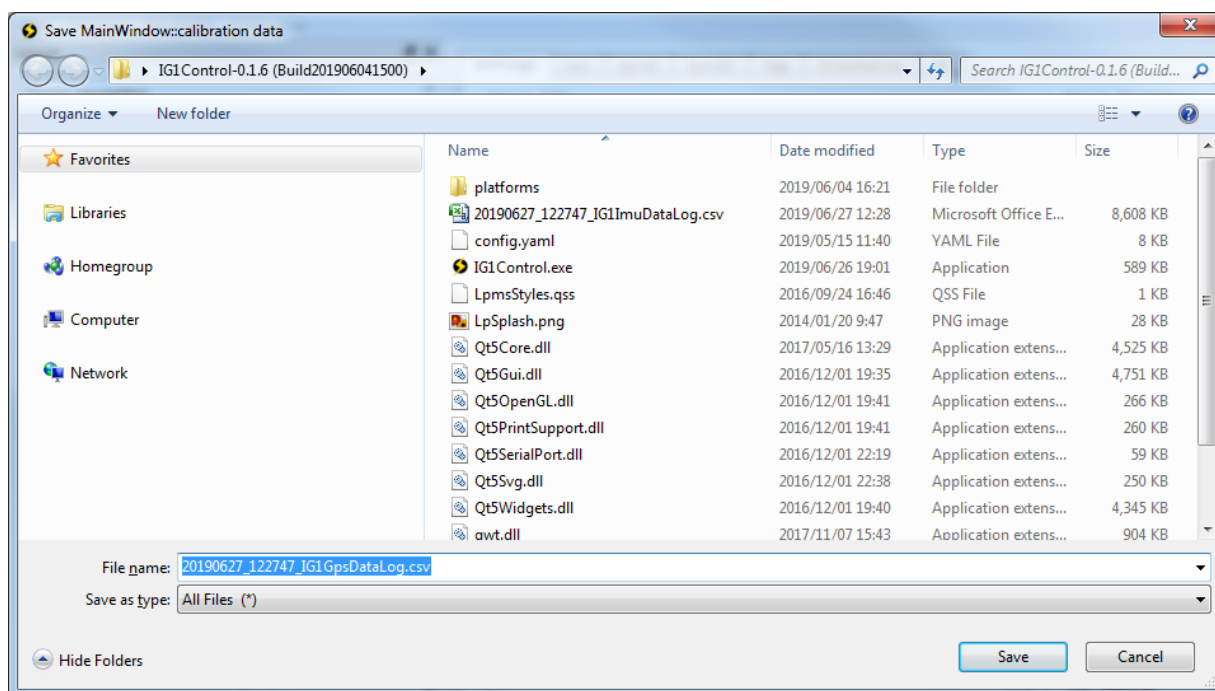

Fig. 9. GPS data saving
3) after the IMU data is saved, another window will be popped out for asking the path to save the GPS data, as showed in Fig. 9.